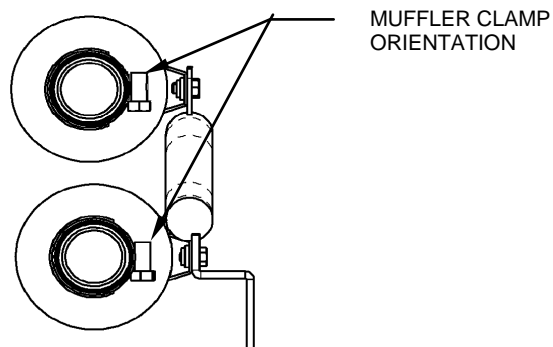

FIGURE 2
8. Install supplied muffler clamp onto inlet of upper muffler (see figure 2) and slide muffler onto rear head pipe. Place supplied slider bracket flat side up inside the mounting bracket of muffler. Start threading two supplied 5/16 bolts through exhaust mounting bracket into muffler slider bracket. **DO NOT TIGHTEN** at this time. **NOTE:** If holes do not align rotate the muffler/head pipe and exhaust bracket up as needed until the holes align.
10. Rotate the muffler clamps as shown in figure 2. **DO NOT TIGHTEN.** The clamps should not be pushed back past the slots or the muffler will not tighten on the head pipe.